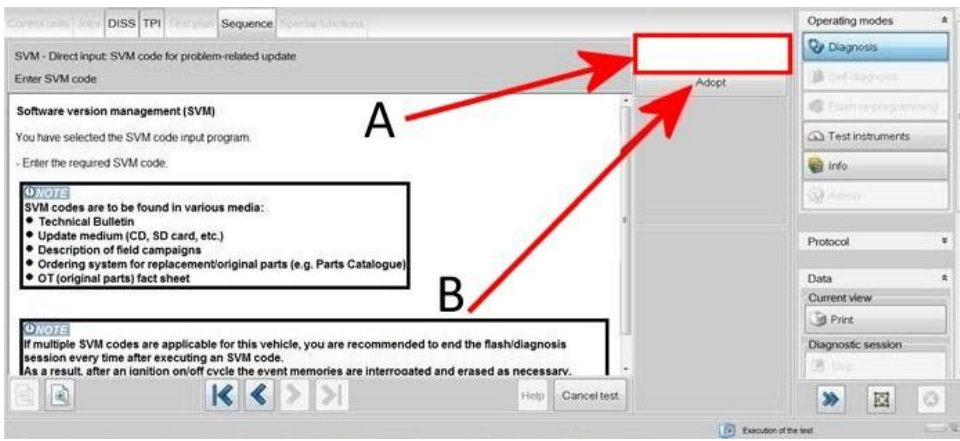

Figure 1
- Because of the highest transmission stability you **MUST** use the diagnosis interface VAS 6154 (WiFi diagnostic tool) **ONLY** in USB operation or the cable-connected VAS 5055 for the reprogramming (updating) of control units. If these units are not available, the diagnosis interface VAS 5054 (A) can also be used in USB mode
2) Referring to Figure 1 (Point A) enter the SVM code 4V0LBBT01